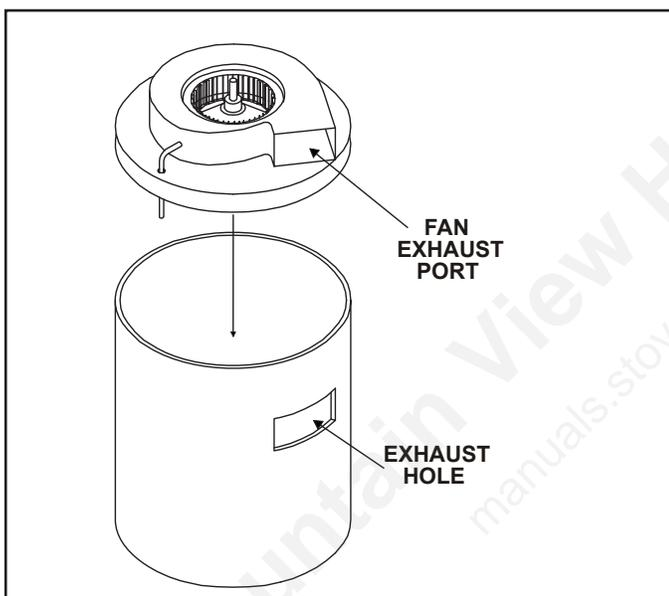

Figure 4.45
- Slide the fan assembly into the 10-1/2" diameter collar, making sure that the exhaust port on the fan assembly lines up with the exhaust hole cut in the 10-1/2" diameter collar. See Figure 4.45.